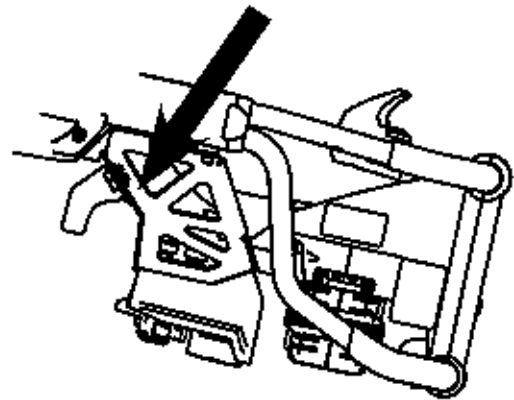

Figure 83
- For Power-LOAD compatible cots, you must lengthen and attach the straps to the foot end fastener as indicated in Figure 83.